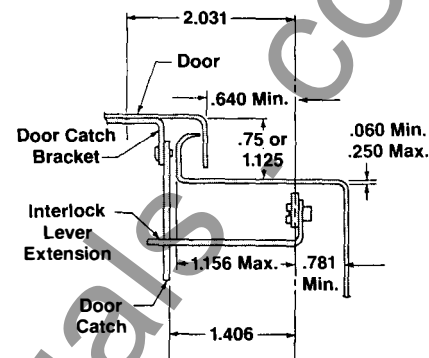

Fig. 2
**Operating Note:** With the enclosure door open, the operating handle cannot be moved from the "OFF" to "ON" position without deliberately defeating the interlock mechanism. In the "OFF" position, the interlock can be defeated by pushing the interlock lever extension (10) downward while moving the handle to the "ON" position (see Fig. 2). With the enclosure door open and the handle in the "ON" position, the interlock can be defeated by turning the defeater screw (11) on the operating handle counter-clockwise. When the enclosure door is closed, the door latch mechanism now automatically defeats the interlock.
- Weld the door catch bracket (12) to the enclosure door. See Figures 2 & 4. NOTE: Holes may be drilled in the door catch bracket using the projections as centers. User must provide the mounting hardware.
- Fasten the door catch (13) to the door catch bracket with two #8-32 x 5/16" pan head screws and external tooth lockwashers. See Figure 2.